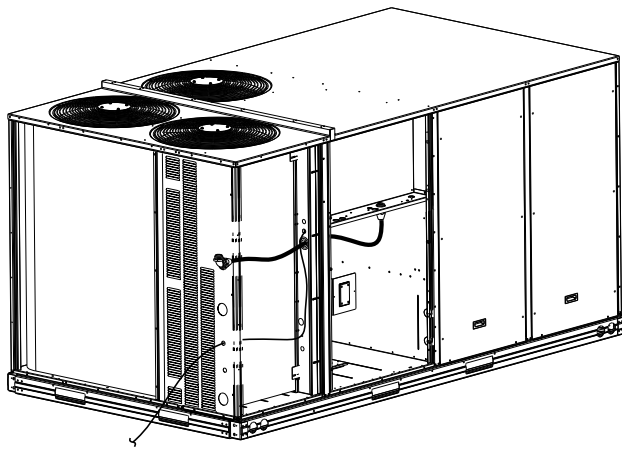

Fig. 74 — Thermostat Wire Routing (Size 16)
Pass the thermostat control wires through the bushing on the unit end panel. Route the wire through the snap-in wire tie and up to the web bushing near the control box. Route the wire through the bushing and into the bottom left side of the control box after removing one of the two knockouts in the corner of the box. Using a connector at the control box to protect the wire as it passes into the control box. Pull the wires over to the terminal strip at the upper left corner of the Central Terminal Board (CTB). Use the connector at the control box and the wire tie to take up any slack in the thermostat wire to ensure that it will not be damaged by contact with the condenser coil. See Fig. 74.
1. Route the humidistat 2-conductor cable (field-supplied) through the bushing the unit's louvered end panel (see Fig. 74).
4. Use the connector and the wire tie to reduce any slack in the humidistat cable to ensure that it will not be damaged by contact with the condenser coil (see Fig. 74).
1. Route the Thermidistat multi-conductor thermostat cable (field-supplied) through the bushing the unit's louvered end panel (see Fig. 74).
4. Use the connector and the wire tie to reduce any slack in the thermostat cable to ensure that it will not be damaged by contact with the condenser coil (see Fig. 74).